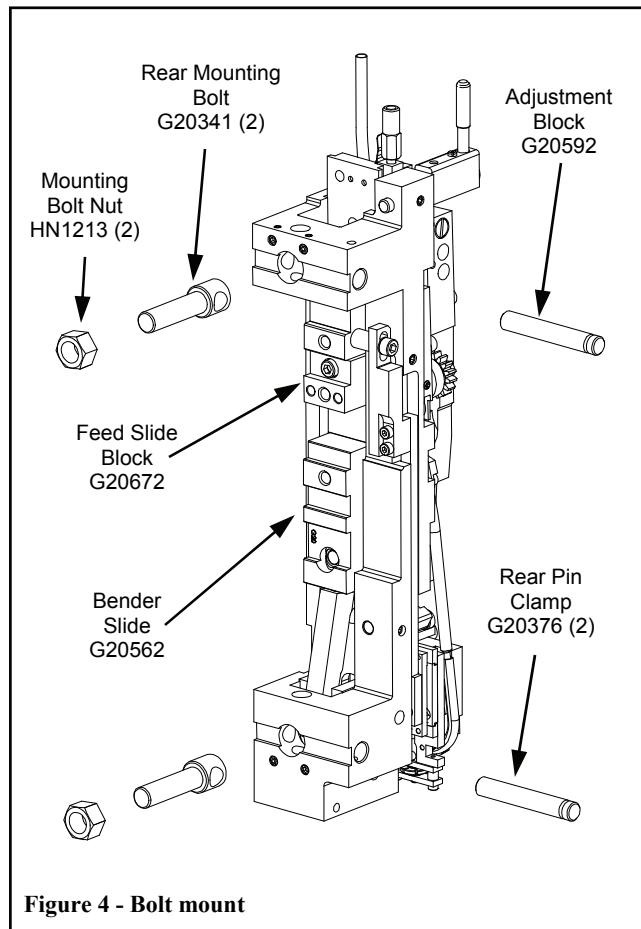
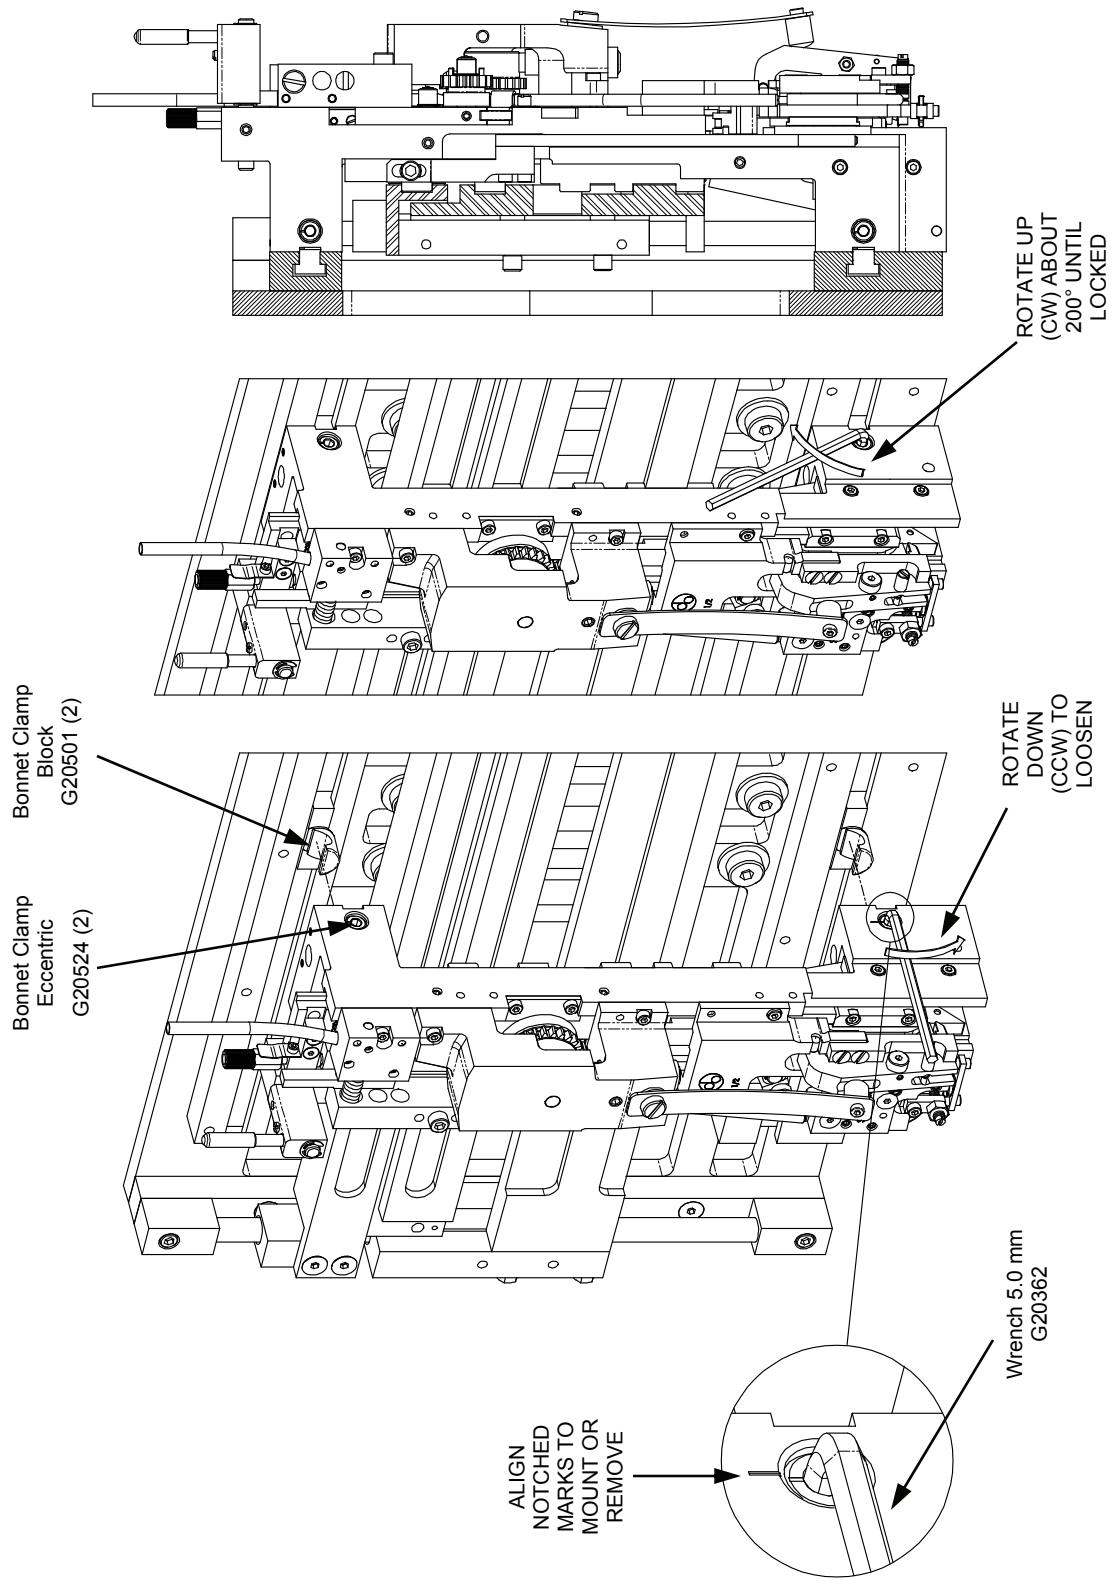

Figure 4 - Bolt mount
Figure 6 - Attaching & removing Heads
- Appropriately mount G20 Head[s] as shown in Figure 4 (Bolt Mount) or Figure 6 (Multiple Head Mount).